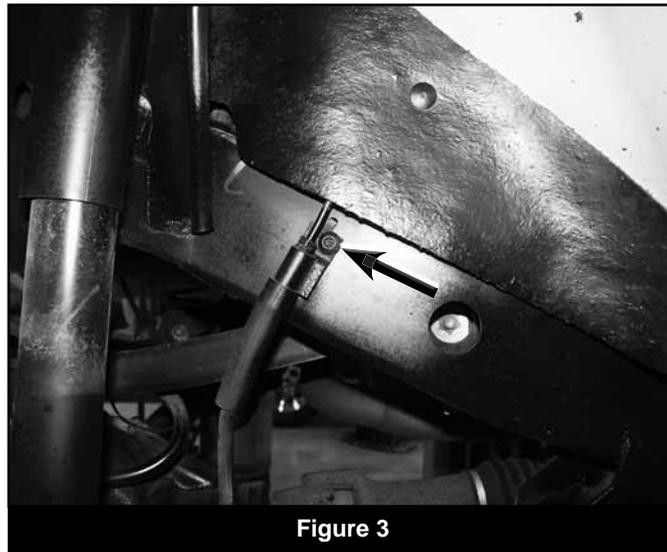

Figure 3
11. Remove fasteners holding brake line anchors to frame on driver's and passenger's side (Fig 3). Retain bolts.